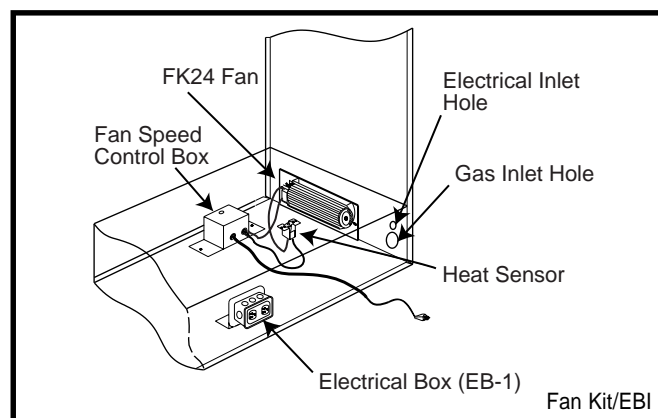

Fig. 50 Fan
2. Install the thermal sensor under the bottom of the firebox, locating it over the two (2) 10 mm studs, and secure it with nuts.
3. Locate the fan speed control unit. This can be fitted behind the lower louver assembly as in Fig. 50, or located remotely in a conveniently located wall mounted electrical box. Remote location of the speed control will require suitable extension of the component wiring.